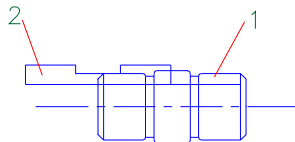

Fig.1
- 2) Press the key in the key way of pin sufficiently such that the bearing-3 can be just inserted. (See Fig. 1)